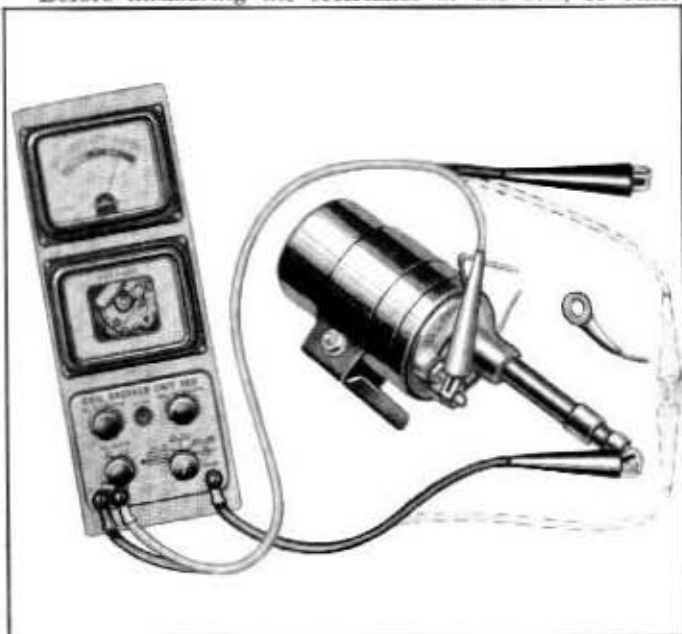

Fig. 9-49—Coil Secondary Resistance Test—(60C-7707)
1. Turn test selector switch to **SECONDARY EFFICIENCY (Milliamp)** position. Adjust the pointer to **ZERO** at left end of scale with zero corrector. See figure 9-49.
3. Insert adapter lead in coil tower and connect Coil Tester leads as shown by solid lines in figure 9-49, red (primary) lead to **DIST.** terminal of coil and blue (ground) lead to adapter lead in coil tower.